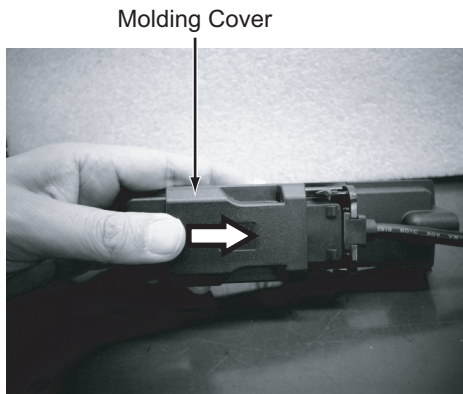

Fig.8
(3) Slide the molding cover so as not to float the waterproof packing and attach so that it is locked. (Fig. 8)